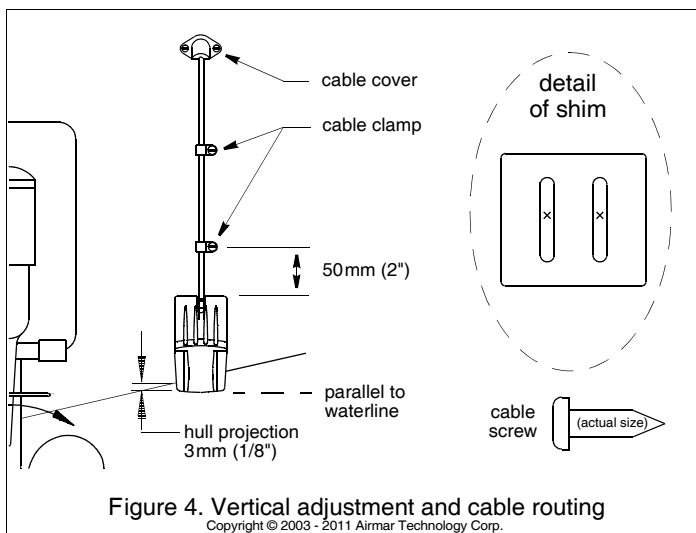

Figure 4. Vertical adjustment and cable routing
1. At the selected location position the transducer, so it projects 3mm (1/8") below the bottom edge of the transom (Figure 4).
- Using the vertical adjustment space in the bracket slots, slide the sensor up or down (Figure 4). Be sure the bottom left corner of the sensor projections 3mm (1/8") below the bottom of the hull.
- Move the sensor deeper into the water in increments of 3mm (1/8") (Figure 4).
- If a hole must be drilled through the transom, choose a location **well above the waterline** (Figure 4). Check for obstructions such as trim tabs, pumps, or wiring inside the hull. Mark the location with a pencil. Drill a hole using the appropriate size bit to accommodate the connector.